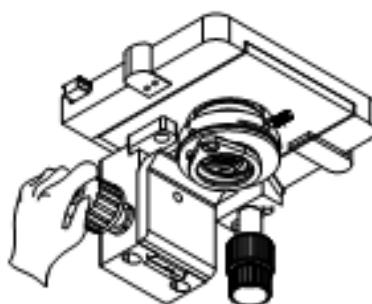

Fig.13
7.7 Rotating the Condenser moving knob, make condenser move highest and a little lower. If you obverse dispersion image in view field , please adjust condenser(Fig.13).